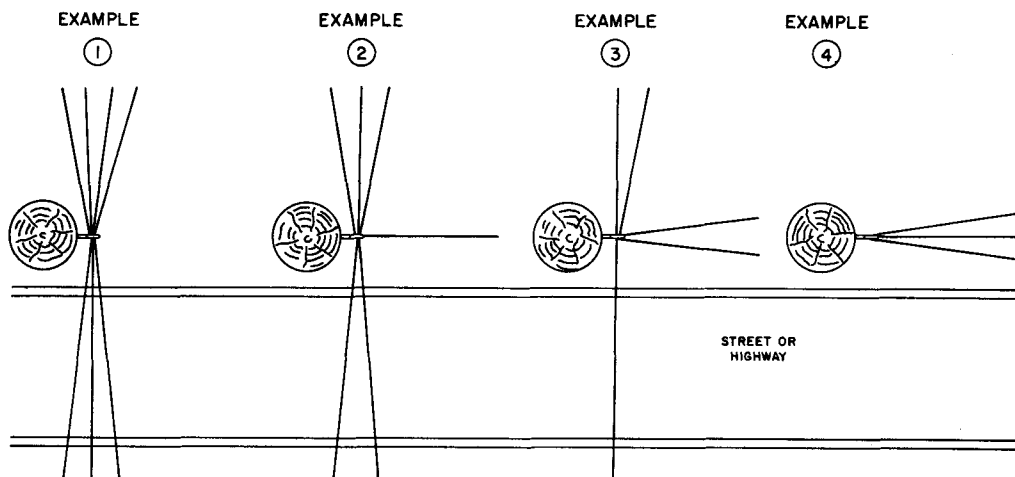

Fig. 2 — Maximum Number of Spans Attached to One Drive Hook
2.09 When the drive hook is installed in the face or back of a pole, the maximum number of spans (not wires) that may be attached to a drive hook is shown in Table A and illustrated in Fig. 2.